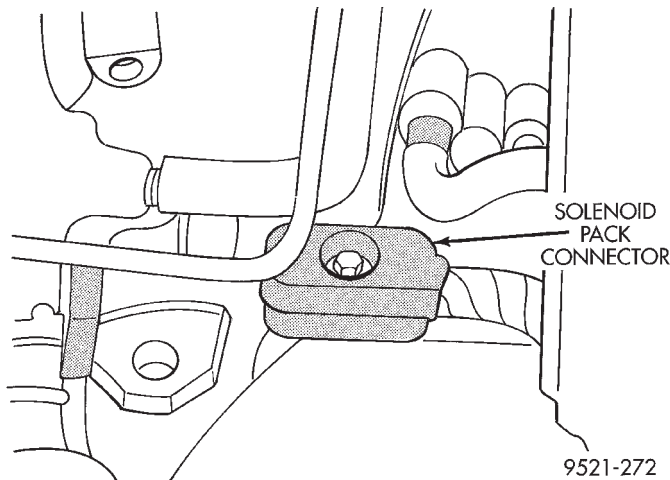

Fig. 41 Solenoid Pack Connector
- (4) Remove solenoid pack connector (Fig. 41).